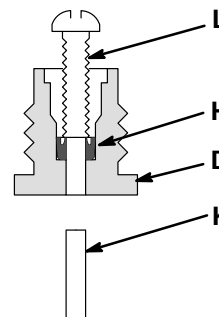

Fig 7
6. Turn the nylon screw (L) into the packing (H). Insert the needle (K) through the bottom of the housing (D) and push the packing out the top of the fluid housing. See Fig 7.